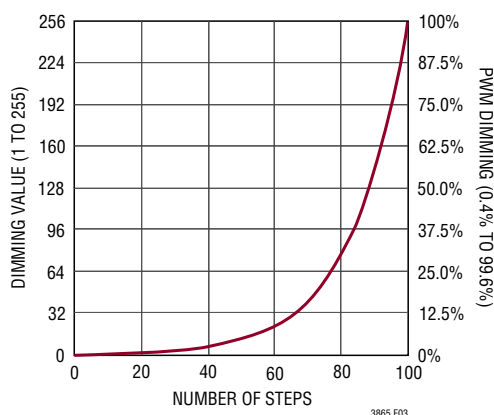
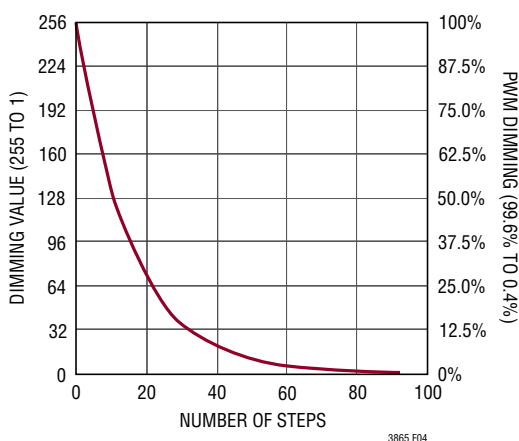

Figure 3. LT3965/LT3965-1 Up Transition Dimming Curve
Figure 4. LT3965/LT3965-1 Down Transition Dimming Curve
The number of the transitional steps depends on the distance between the initial value and the target value. The maximum number of transitional steps from 1/(256) dimming to 255/(256) dimming is 100 (see Figure 3) and the maximum number of transitional steps from 255/(256) dimming to 1/(256) dimming is 92 (see Figure 4). Each step runs 4 PWM dimming cycles, and each dimming cycle consists of 2048 RTCLK clock cycles. Then  $T_{STEP} = T_{PWM} \cdot 4 = T_{RTCLK} \cdot 8192$